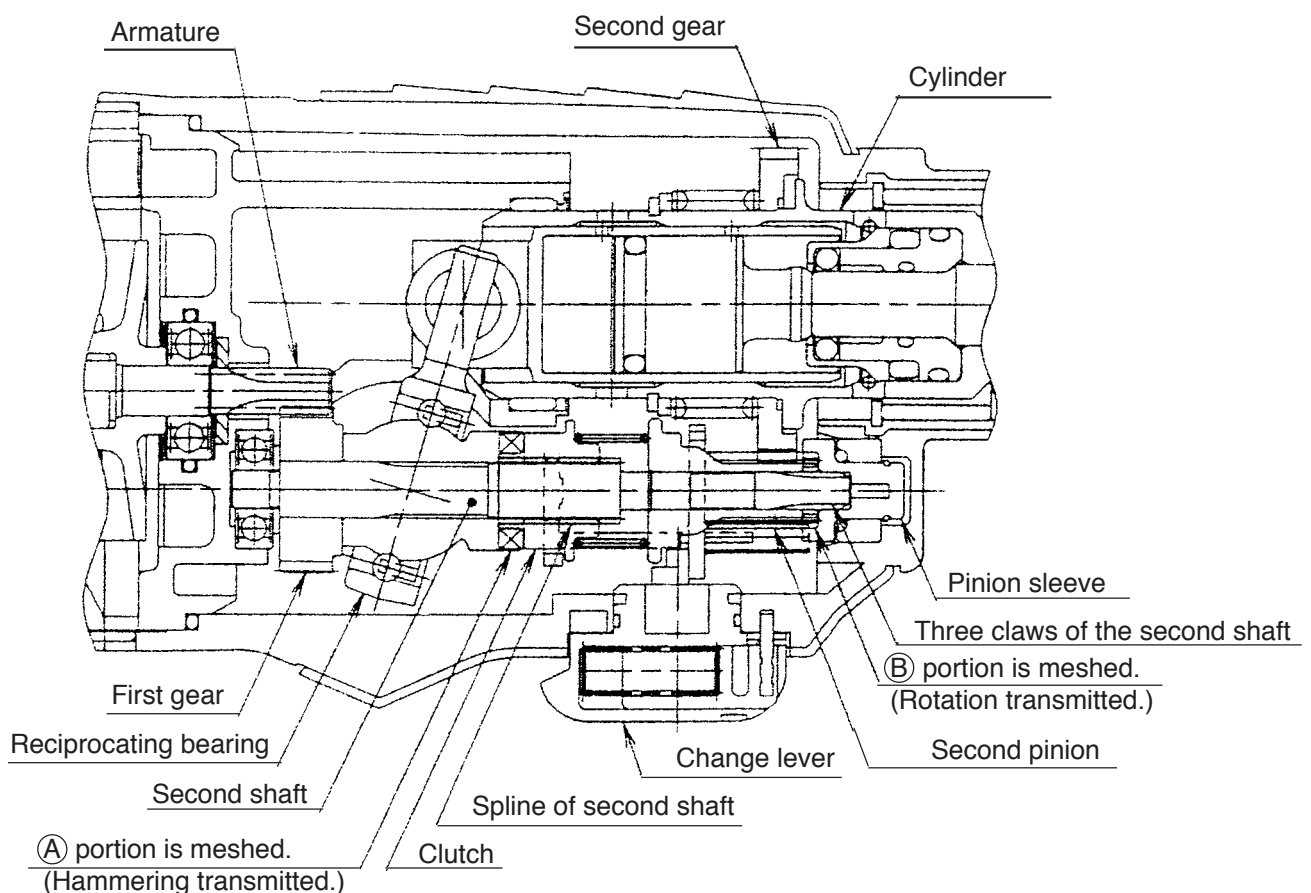

Fig. 6
(1) Rotation and hammering (Fig. 6)